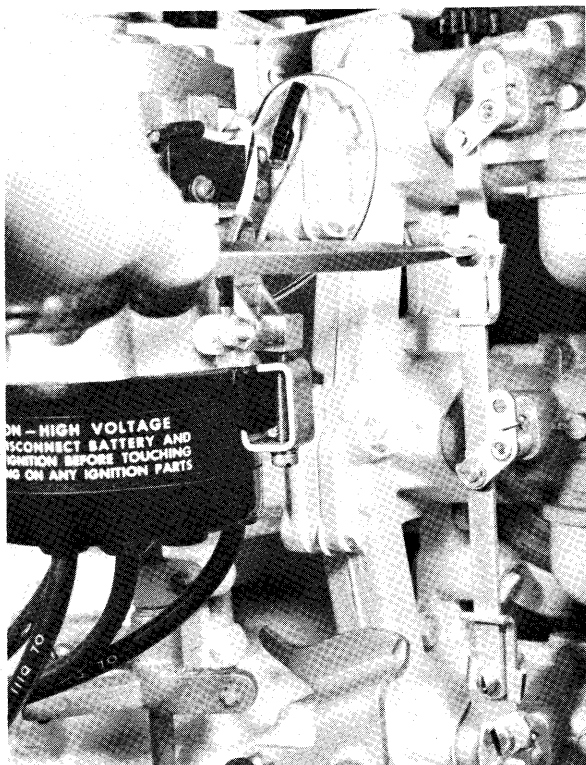

Figure 12—Loosening Throttle Tie Bar Screw
- B. Loosen throttle tie bar screws as shown in figure 12.
- D. Tighten throttle tie bar screws (see figure 12).